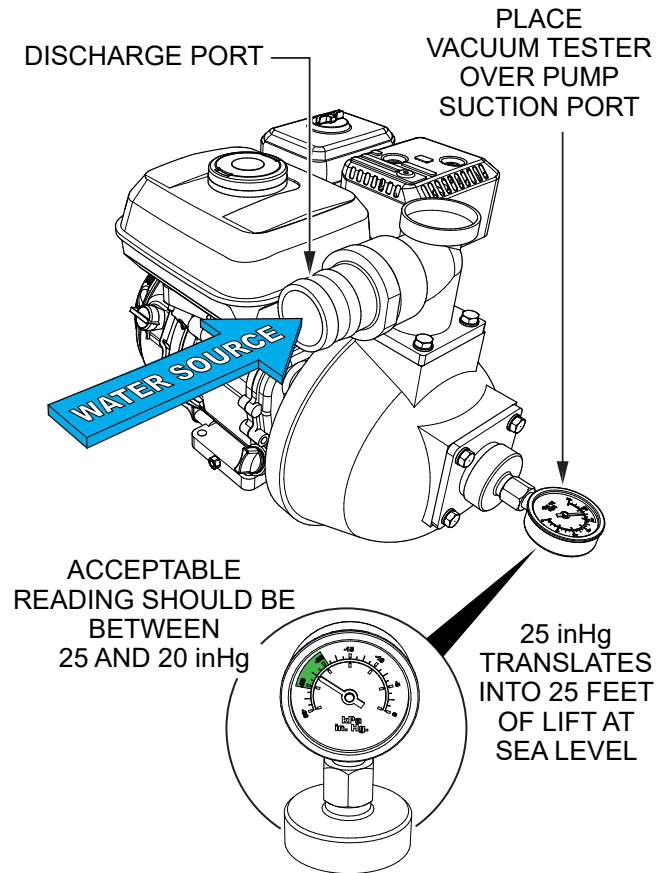

Figure 31. Pump Vacuum Test
3. As shown in Figure 31, place a water hose inside the discharge opening of the pump, and turn on the water. This flow of water into the discharge opening will prevent the pump from running dry.